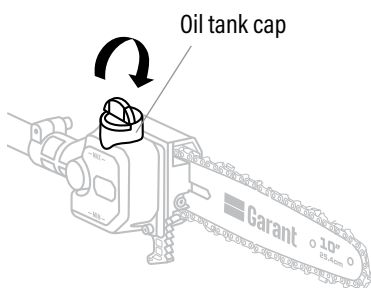

Fig. 5A
2. Place the pole saw upright to ensure that the oil tank cap is facing upwards. Unscrew the oil tank cap and remove it (Fig. 5A).